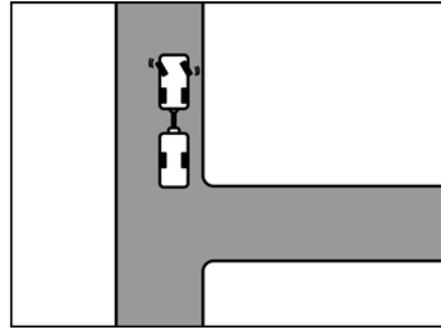

Fig. 10 Steer to the left
- With a stationary towing vehicle and trailer turn the steering wheel to the left (Fig. 10).